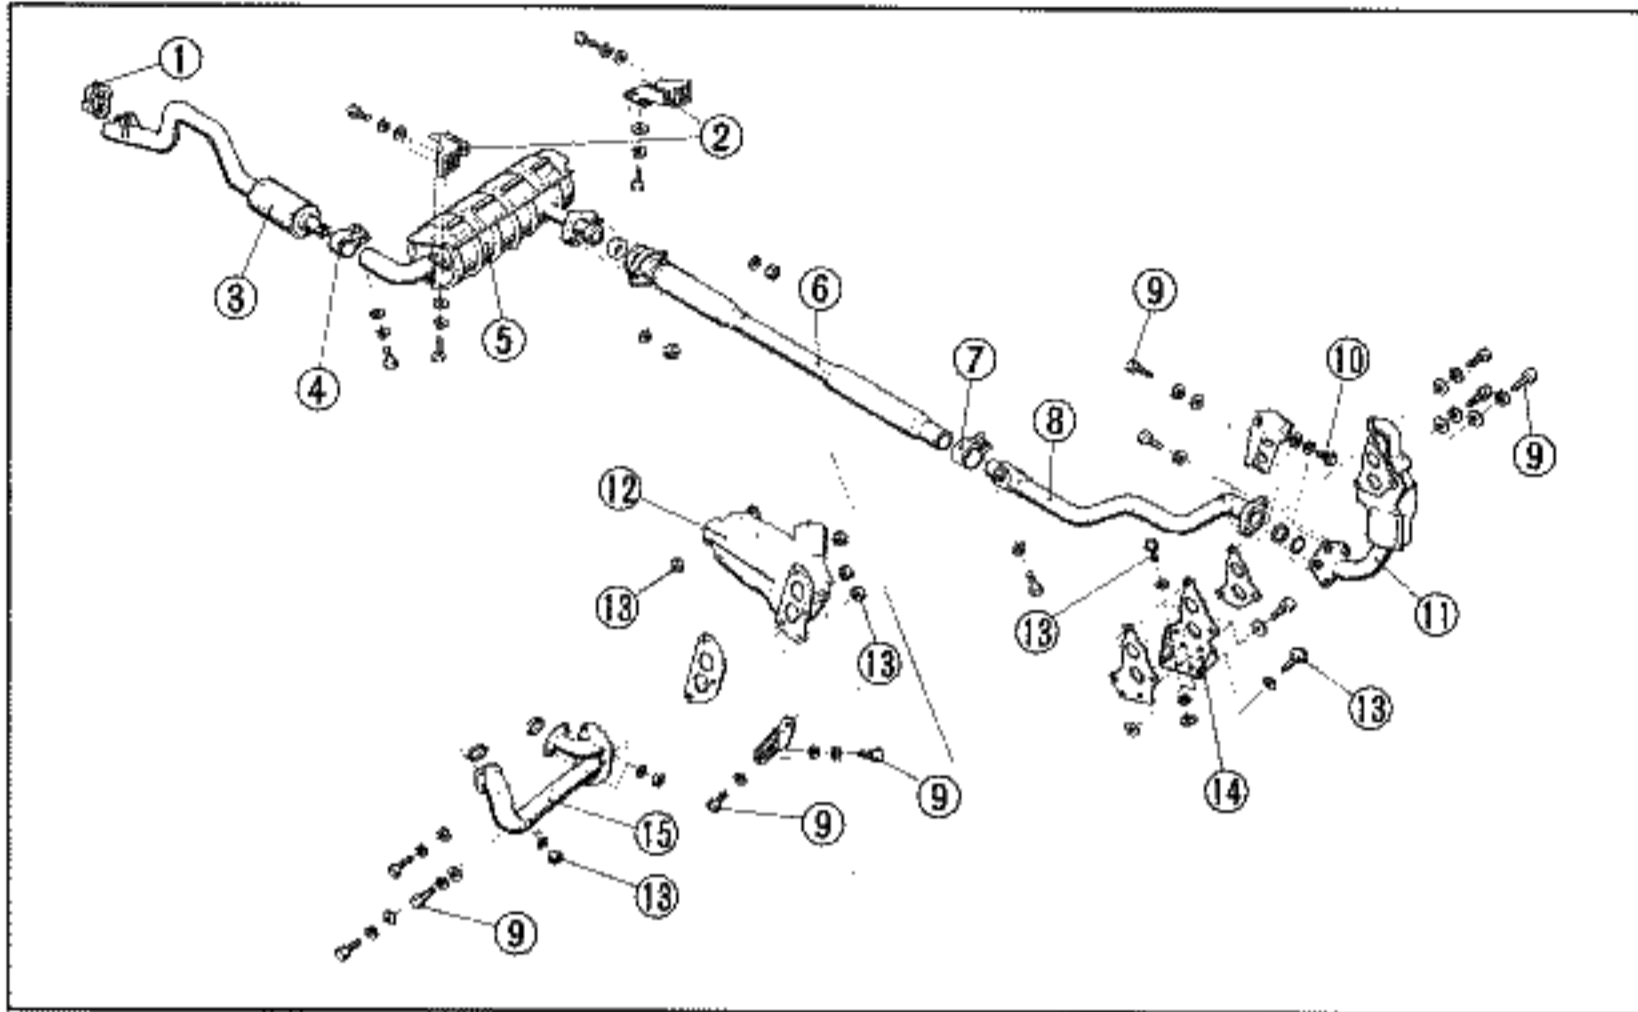

Fig. 14-1 ① Exhaust Pipe Mounting Cushion ⑥ Exhaust Silencer A ⑪ Joint Pipe A Assembly
4. Retighten the exhaust manifold, joint pipe A and heat exchanger to the specified torque (Fig. 14-1).